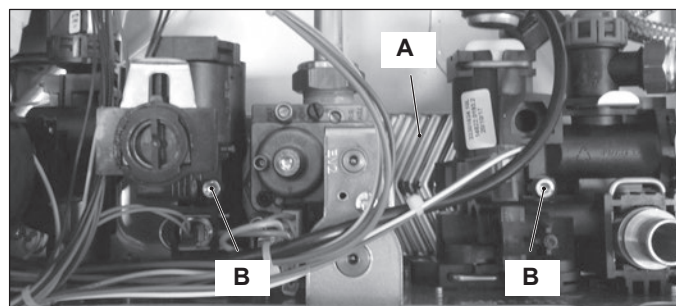

Figure 6.3
The D.H.W. heat exchanger "A" in Figure 6.1 and Figure 6.3 allows the instantaneous transfer of heat from the primary hydraulic circuit to the water destined for D.H.W. use.
- 5 Completely unscrew the Allen key screws "B" in Figure 6.3 which hold the exchanger to the plastic groups.